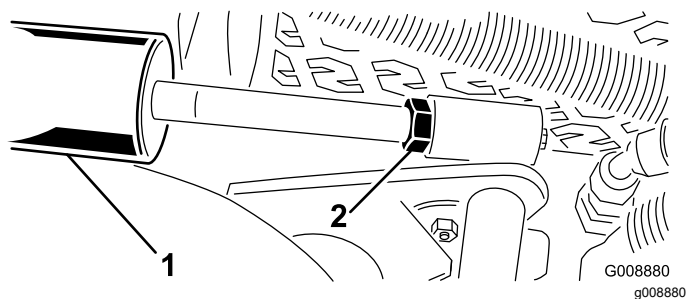

Figure 31
1. Loosen the jam nut of the lift cylinder (Figure 31).